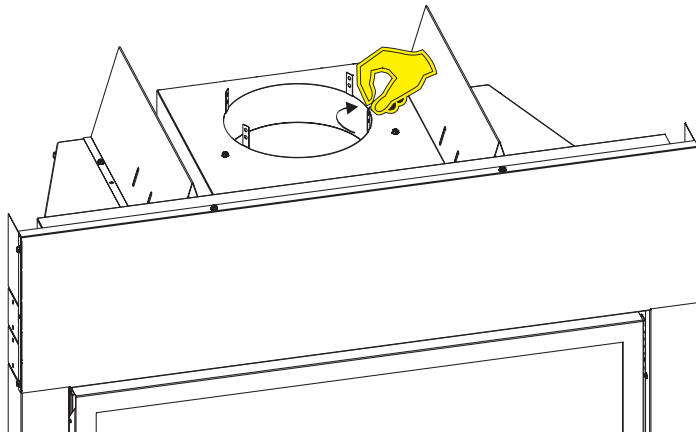

Figure 22
1. Hand bend the tabs up on the Outer Wrapper Top Assembly as shown in Figure 22.